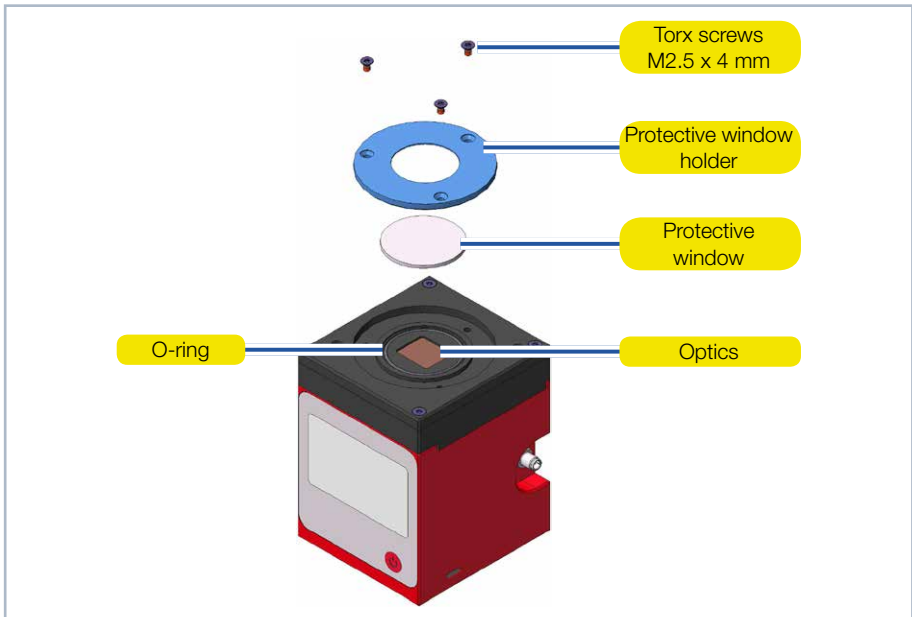

Fig. 16.1: Exchanging the protective window on the Cube M
3. Place the device as shown in Fig. 16.1 on page 47 and carefully remove the protective window holder upwards.
6. Place the protective window holder according to Fig. 16.1 on page 47.